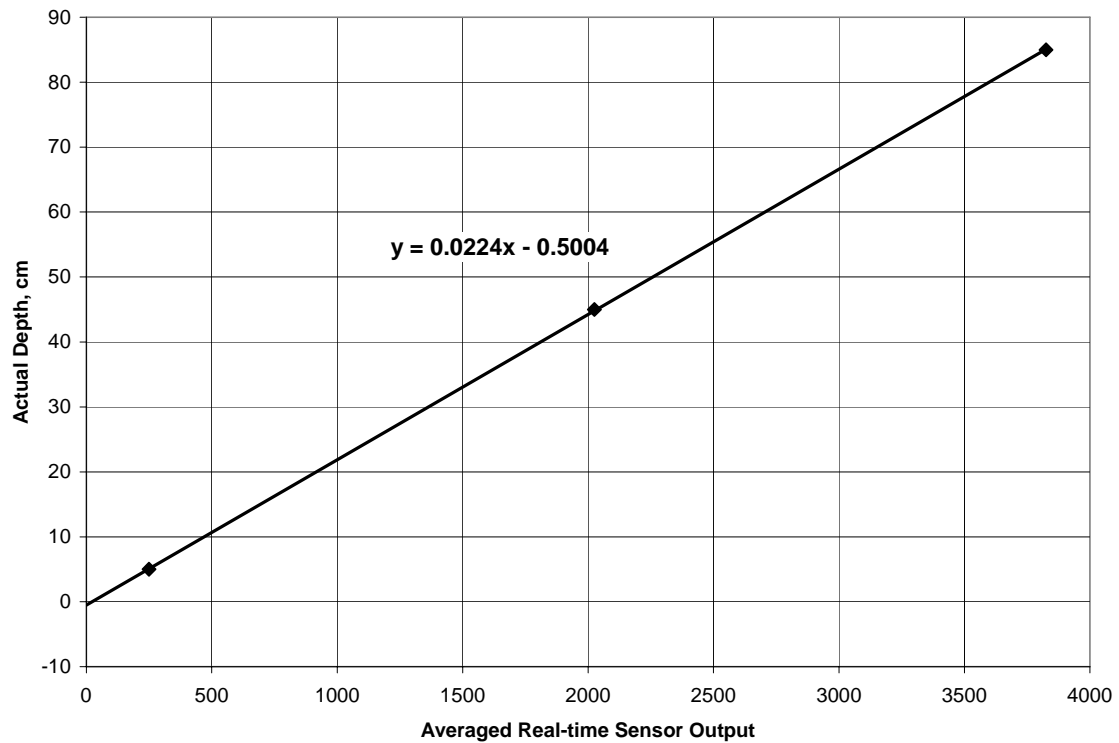

Figure 66. Linear calibration curve fit for the WL14.
- e. Plot the three points and draw a linear best-fit curve through them, and determine the y-intercept and slope. Figure 66 is an example, where the slope is 0.0224 and the y-intercept is 0.5004.